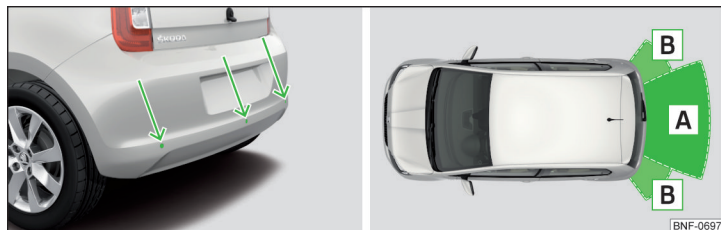

Fig. 128 Fitting the sensors / Range of the sensors
- Keep the system sensors » Fig. 128 on page 98 clean and free from snow and ice, and do not cover them with any objects of any kind, otherwise the functioning of the system may be restricted.
The system uses ultrasound waves to calculate the distance between the bumper and an obstacle. The ultrasonic sensors are integrated in the rear bumper » Fig. 128.
Approximate range of sensors » Fig. 128